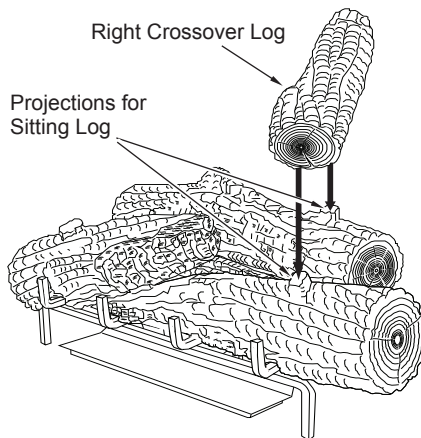

Figure 53 - Installing Right Crossover Log
- Place the right crossover log onto the rear log and the right front log as shown in Figure 53. The right crossover log has notches in the bottom that will line up with the projections on the rear log and the right front log.